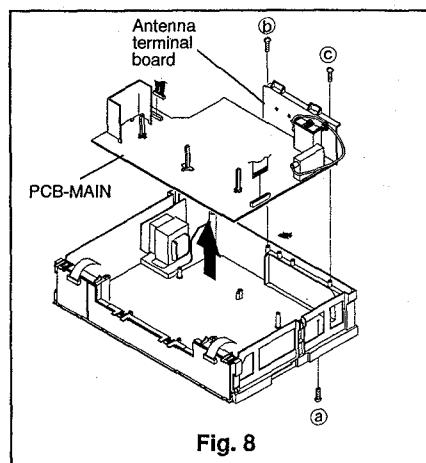

Fig. 8
- ⑤ If necessary to remove PCB-MAIN completely, remove the Assy Deck. (Refer to Para. 5 of the DISASSEMBLY.) Remove all connectors on the PCB-MAIN. Remove one fastening screw (④) on the bottom and two fastening screws (⑤ and ⑥) on the Antenna Terminal Board shown in Fig. 8. Raise the PCB-MAIN upward to remove it.